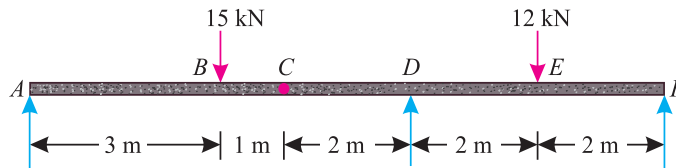

Fig. 16.13.
2. Two beams  $AD$  and  $DF$  of spans 6m and 4m respectively are hinged at  $C$  and supported at  $A, D$  and  $F$ . The beams are loaded as shown in Fig. 16.13.